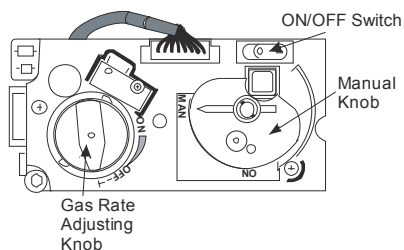

Figure 12
2. Turn the Manual knob clockwise to **MAN** position (see **Figure 12**).